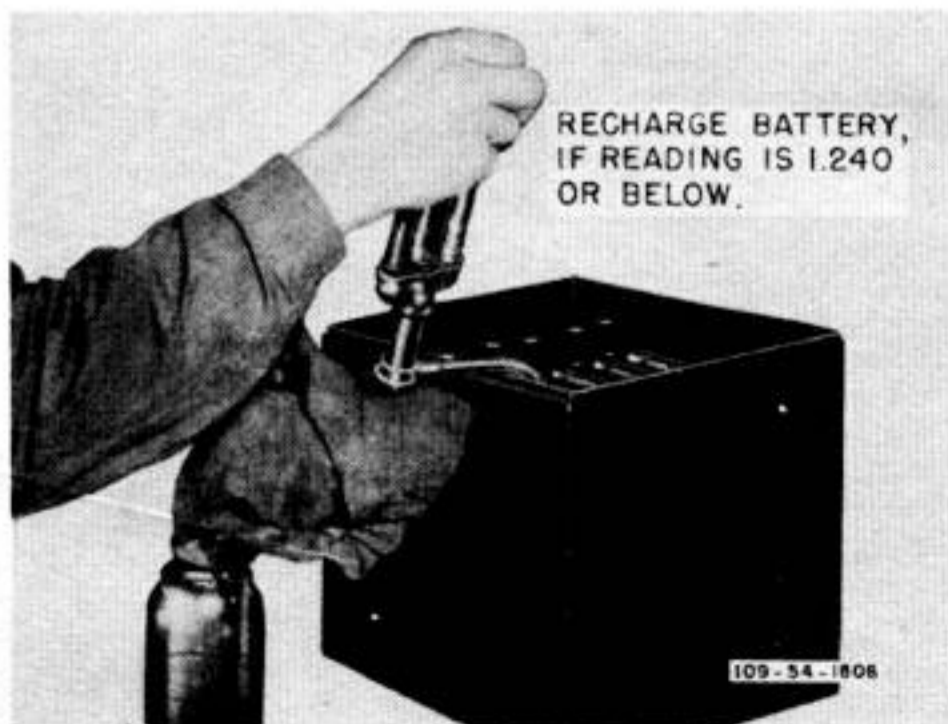

Figure 68—Checking Specific Gravity of the Battery
(6) TESTING BATTERY SPECIFIC GRAVITY.—Since gravity varies with temperature as well as with the percentage of acid (increasing temperature lowers it; decreasing temperature raises it), it is necessary to correct for temperature in accurately determining the condition of charge of the battery. AAF hydrometers are calibrated to read correctly at 26.7°C (80°F). In taking readings, make the temperature correction indicated by the thermometer on the hydrometer by adding or subtracting the correct number of points to the float reading. For example, if the hydrometer reading is 1.250 and the thermometer reading is -1.1°C (30°F), the correction shown on temperature scale is "subtract 20 points." Thus, the true specific gravity of the battery would be 1.250 minus 20, or 1.230. Replace the battery as soon as practicable if its specific gravity, corrected for temperature, is below 1.240 (figure 68) or above 1.310. The following specific gravity table is for new batteries at 26.7°C (80°F) with the electrolyte level $\frac{3}{8}$ inch above the top of the protector: